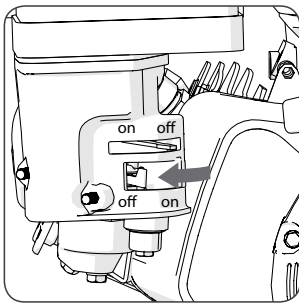

Fig. 5
- Turn the fuel tap to the 'OFF' position. **(Fig. 5)**